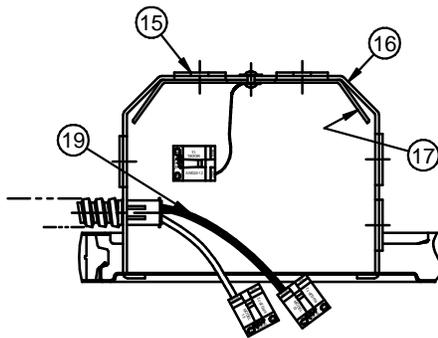

FIG. 4
3. Locate Housing (3) along Bar Hanger in desired position and, using pliers, squeeze the 4 Locking Tabs (12) on the Plaster Frame (13) tightly over the Bar Hangers to prevent further Housing movement. Bar Hangers (6) may be installed in alternate Slots (23) if mounting conditions require.
4. As desired, hanger bars (6) may be shortened at score mark to fit tight mounting conditions and joist alignment tabs removed to adjust vertically as needed by breaking off with pliers.
5. Unsnap Junction Box Cover (14) by lifting the Leaf Spring (24).
6. Run supply wires through UL Listed connectors (not supplied) in one of the five Pryouts (15) on the Junction Box (16) or Type NM cable (ROMEX) through an Opening above the Wire Retaining Plate (17). Connect Supply Wires (19) as shown in Fig 4 & 5. Replace Cover.
8. To access junction box after installation, twist bottom of Housing (3) out of Plaster Frame (13).